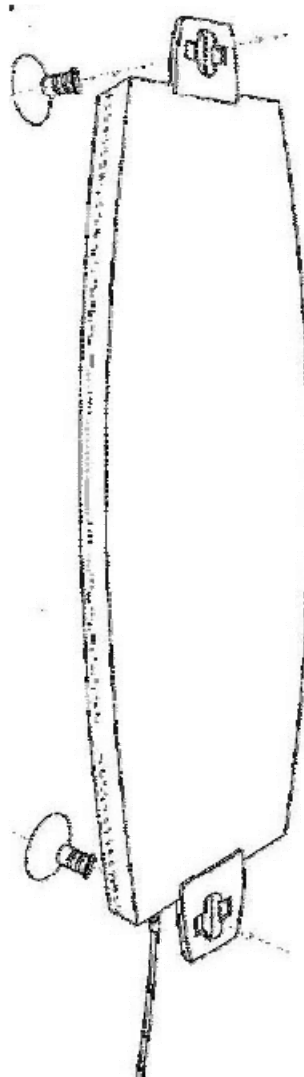

Figure 2-17: Window Mounting the Antenna
- 1 Attach the suction cups to the antenna. Refer to Figure 2-17 for directions.